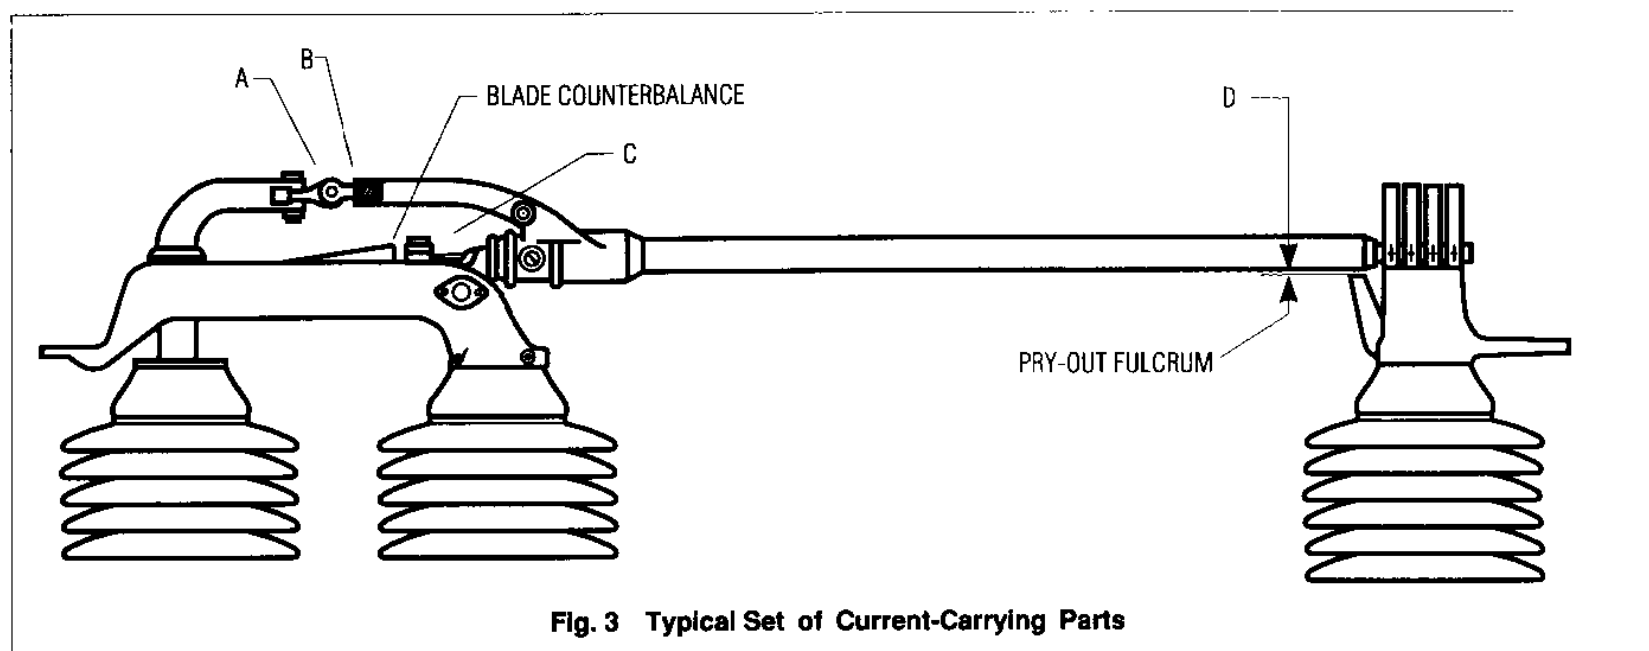

Fig. 3 Typical Set of Current-Carrying Parts
CAUTION: When uncrating switches having blade counterbalances (Fig. 3), be careful to keep the linkage on dead center until the blade and hinge assembly have been bolted in place on the insulator columns. Otherwise, the counterbalance springs may collapse the hinge end toggle, possibly causing injury to workmen. Make certain that the base crank is in the proper position when mounting current carrying parts, i.e. - Base crank rotated to the maximum counterclockwise position with the blade closed. Care should be exercised when hoisting the blade hinge and jaw assemblies into position to prevent scratches or damage to these current-carrying parts. When assembling the jaws on the insulator columns, leave the jaw base hold down bolts finger tight. This will permit the jaw base to be rotated and shifted slightly for subsequent
Blade height in jaw - In Fig. 3 dimension (D) can vary from 1/8" to 5/8" with the switch in the closed position. It is not usually possible to get this dimension to be equal on all three poles of a three pole switch. If it's necessary to adjust this dimension, remove connecting pin (A) and screw clevis (B) in or out 1/2 turn then reconnect and try switch. Screwing clevis in will move the blade away from the pry-out fulcrum. Conversely, screwing the clevis out will move the blade closer to the fulcrum in the switch closed position.
Open blade stop - On certain switches, there are stops for the blade in the open position, as shown at (C), Fig. 3. Some of these stops have flat washers that can be relocated to raise or lower this stop, while other voltage rated switches use threaded bolts with lock nuts. In either case, raising the stop surface (C) will reduce blade opening angle; lowering the stop surface (C) will increase blade opening angle. After each pole has been adjusted, set the open and closed stop bolts at base of each rotating insulator.